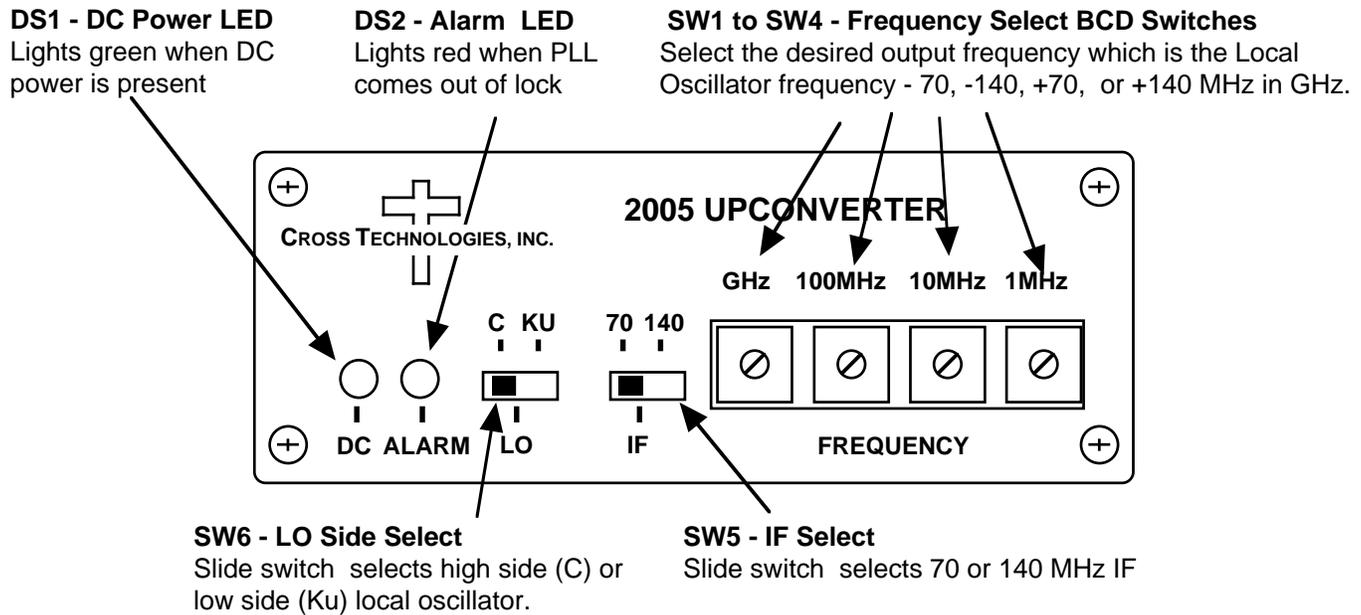

FIGURE 2.2 2005 Front Panel Controls and Indicators
2.2 Controls and Indicators - Figure 2.2 shows front panel controls and indicators.
- 1.) Check that SW5, SW6, SW7 are set to the desired positions (Figure 2.2, Figure 2.3).
- 6.) Set BCD switches SW1 to SW4 to the desired frequency (Figure 2.2).
- 7.) Be sure DS1 (green, DC Power) is on and DS2 (red, Alarm) is off (Figure 2.2).
2.5.2 Frequency Setting, SW1 to SW4 - The frequency is selected by setting the BCD switches (SW1 to SW4) on the front panel to the desired frequency using a small blade screwdriver. The frequency displayed on the BCD switches is the desired output frequency with 70 or 140 MHz IF center frequency input and the low or high side LO as selected by SW5 and SW6 (see Figure 2.2). There is no muting of the output carrier during frequency selection. If the switches are set to an invalid frequency, alarm LED DS2 will light.
2.5.4 Selecting High Side LO, Low Side LO, 70 MHz or 140 MHz Input - To select High Side LO, Low Side LO, 70 MHz or 140 MHz Input set SW5 and SW6 on the front panel (see Figure 2.2) to the desired position.
3.2.2 Frequency Setting, SW1 to SW4 - The frequency is selected by setting the BCD switches (SW1 to SW4) on the front panel to the desired frequency using a small blade screwdriver. The frequency displayed on the BCD switches is the desired output frequency with 70 or 140 MHz IF center frequency input and the low or high side LO as selected by front panel slide switches SW5 and SW6 (see Figure 2.2). There is no muting of the output carrier during frequency selection. If the switches are set to an invalid frequency, alarm LED DS2 will light.